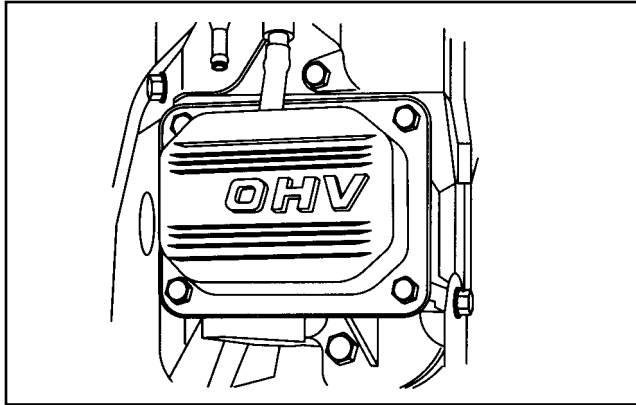

Fig. 19 - Install Valve Covers
6. Install valve covers with new gaskets, Fig. 19.